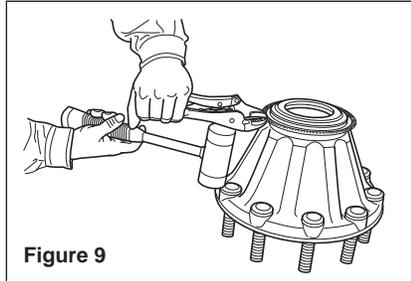
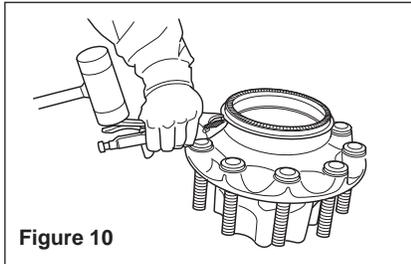

Figure 9
Figure 10
1. The steer axle tone ring can be removed by gripping the ring with a pair of locking pliers and tapping the pliers upward with a rubber mallet. Work around the ring to keep the ring from cocking (see figure 9). Drive axle and trailer tone rings can be removed by gripping the ring with a pair of locking pliers and prying against the head of a wheel stud to lift the ring off the hub. Work around the ring to prevent cocking (see figure 10).